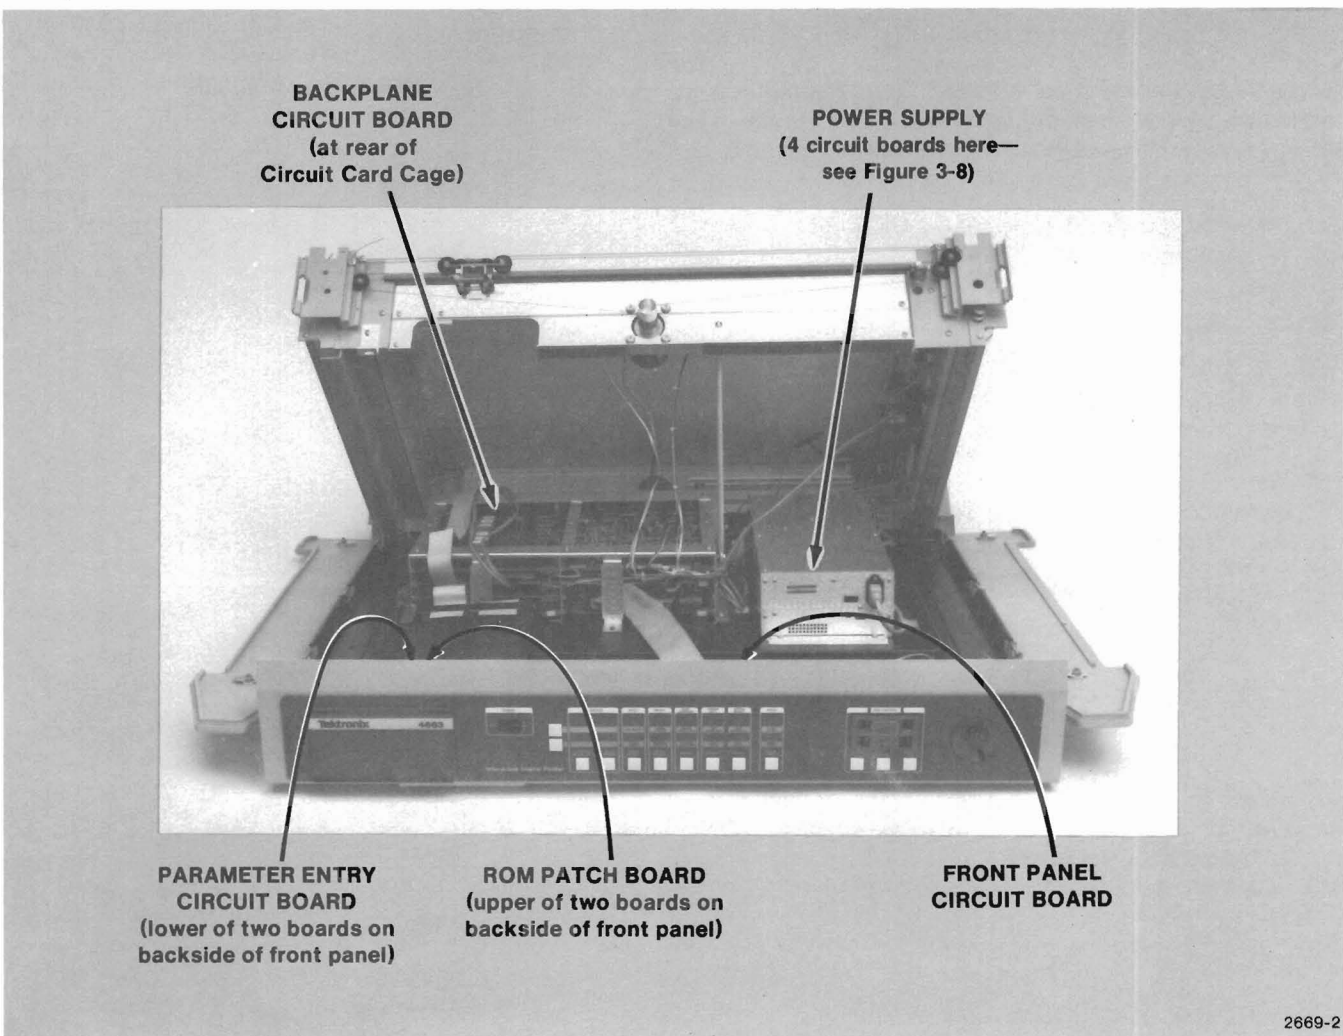

Figure 3-7. Front View of Plotter Showing Circuit Board Locations.
Use the following procedure to remove the Front Panel Switches and Lights circuit board from the back side of the front panel (see Figure 3-7).
To remove the Parameter Entry Circuit board, use the following procedure and refer to Figure 3-7.
Perform the following steps to remove the Main Power Supply, 60 Watt Aux, and Fan circuit boards (see Figures 3-7 and 3-8).
1. Follow Steps 1-5 of Appendix C (Access to Plotter's Interior) to gain access to the power supply (shown in Figures 3-7 and 3-8).